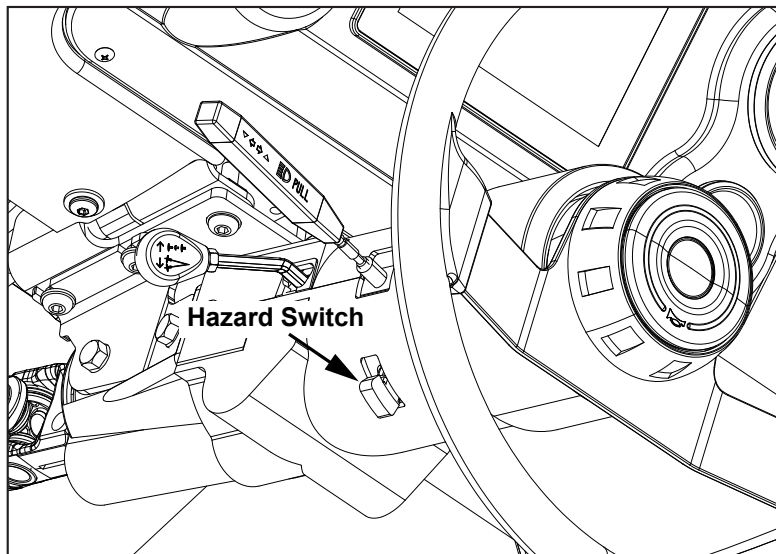

Figure 2
4. Locate and enable the hazard switch (see *Figures 2 and 3*).
Note: *Figures 2 and 3 represent the most common location and application. Due to production variations, your vehicle may vary from the illustrations.*